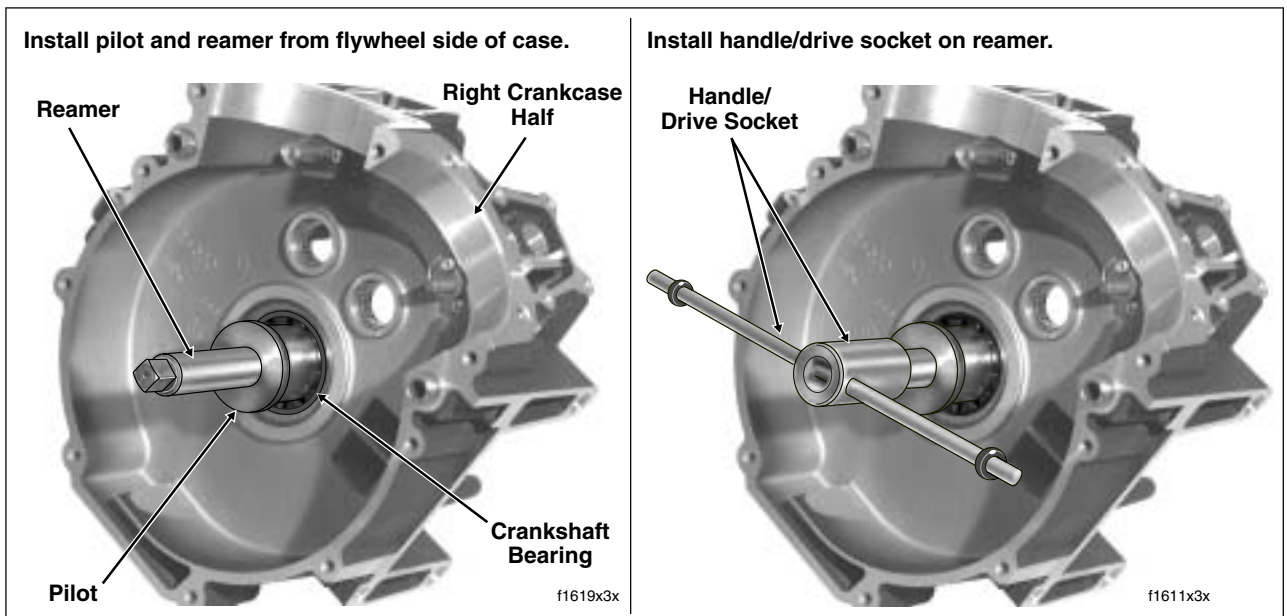

Figure 3-106. Ream Crankshaft Bushing
- a. From flywheel compartment side, carefully insert tapered end of reamer pilot into crankshaft bearing until it stops. See left frame of Figure 3-106.
- c. Install handle/drive socket on reamer lug. See right frame of Figure 3-106.